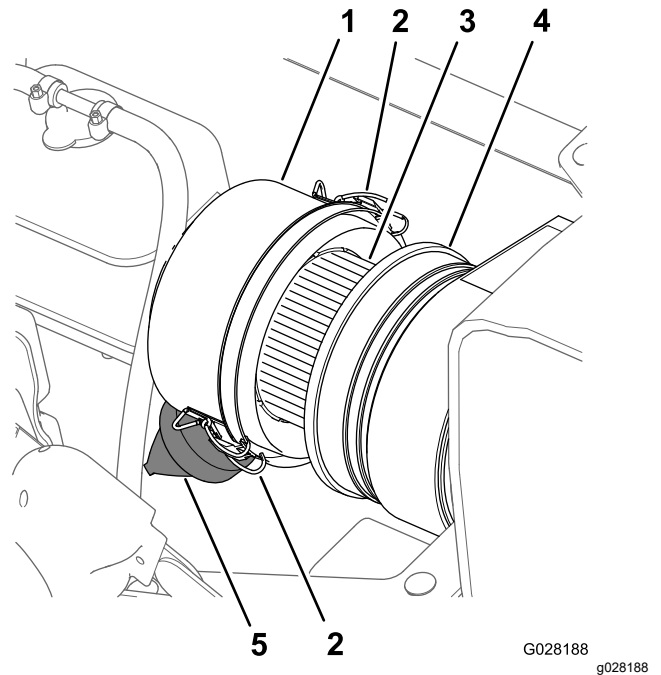
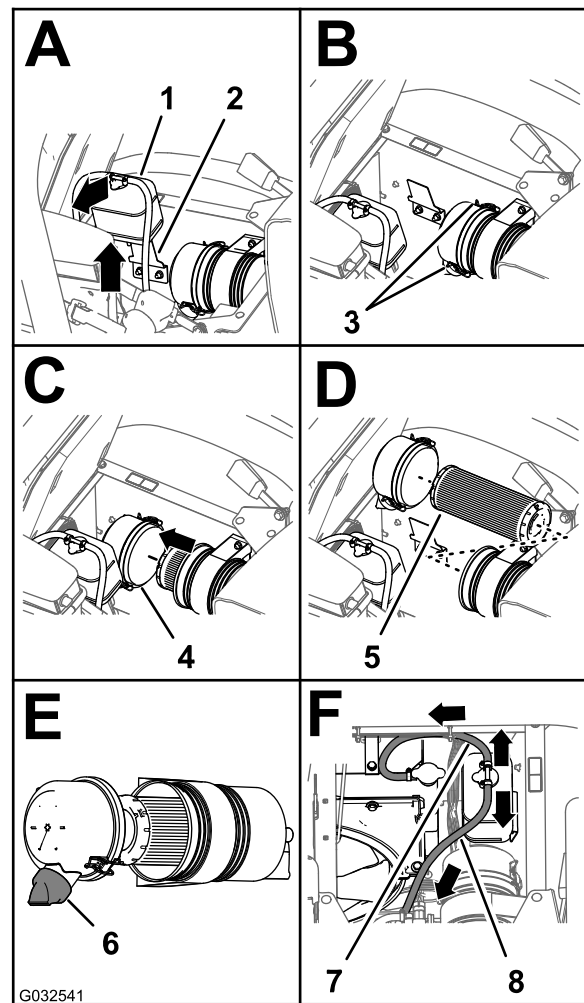

Figure 108
Figure 109
3. Clean the dust cap and air-cleaner body (Figure 108).
4. Check the air-cleaner body for damage that could cause an air leak (Figure 108).
5. Squeeze the dust valve to clear it of dirt, dust, and debris (Figure 108).
7. Check the air-filter element for excessive accumulation of dust, dirt, and debris (Figure 108).
8. Install the dust cap onto the air-cleaner body and secure the cap with the 2 latches (Figure 108).
2. Clean the dust cap and air-cleaner body (Figure 108).
3. Lift the coolant-overflow tank up and off the tank-support bracket (Figure 109).
4. Loosen the 2 latches that secure the dust cap to the air-cleaner body (Figure 109).
6. Clean the inside of the dust cap, air-cleaner body, and dust valve with a damp rag (Figure 108 and Figure 109).
7. Insert the air-filter element into the air-cleaner body (Figure 109).
8. Install the cover onto the air-cleaner body and secure the cover with the 2 latches (Figure 109).
Note: Ensure that the dust valve is aligned between the 5 to 7 o'clock position when viewed from the end (Figure 109).
9. Align the coolant-overflow tank to the tank-support bracket and seat the tank firmly (Figure 109).
Important: Ensure that the pressure-relief hose is routed forward and down, and the tank-vent hose is routed rearward as shown in Figure 109.